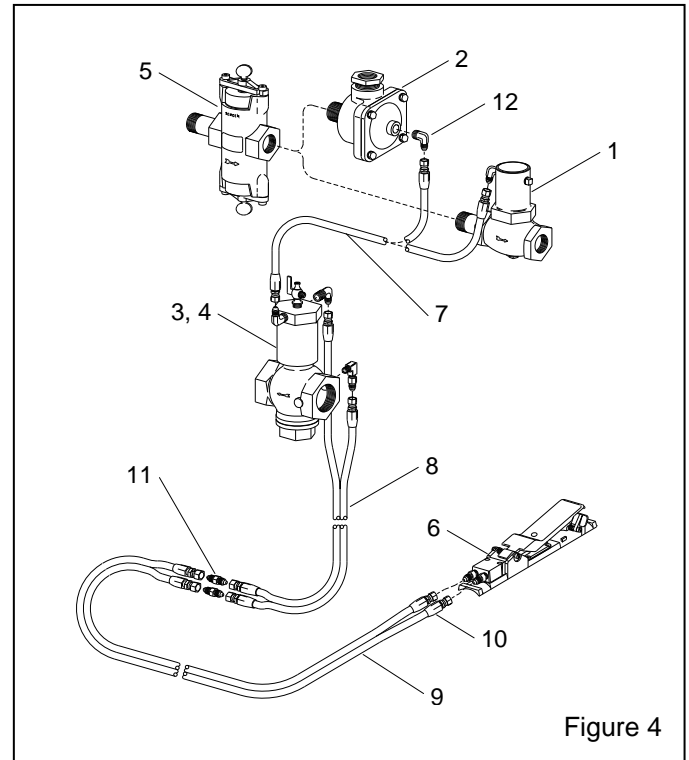

Figure 4
7.2 System Replacement Parts, Figure 4
All other parts are the same as shown in Section. 7.2 and Figure 4. Refer to the RLX manual for replacement parts for the ACS Control. Refer to the metering valve manual for metering valve replacement parts.